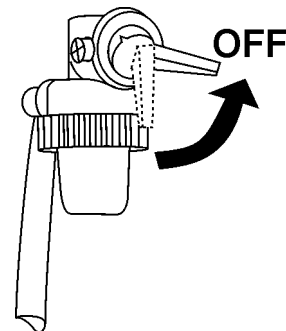

Figure 24. Engine Fuel Valve Lever (OFF Position)
5. Place the engine **fuel valve lever** (Figure 24) to the "OFF" position."